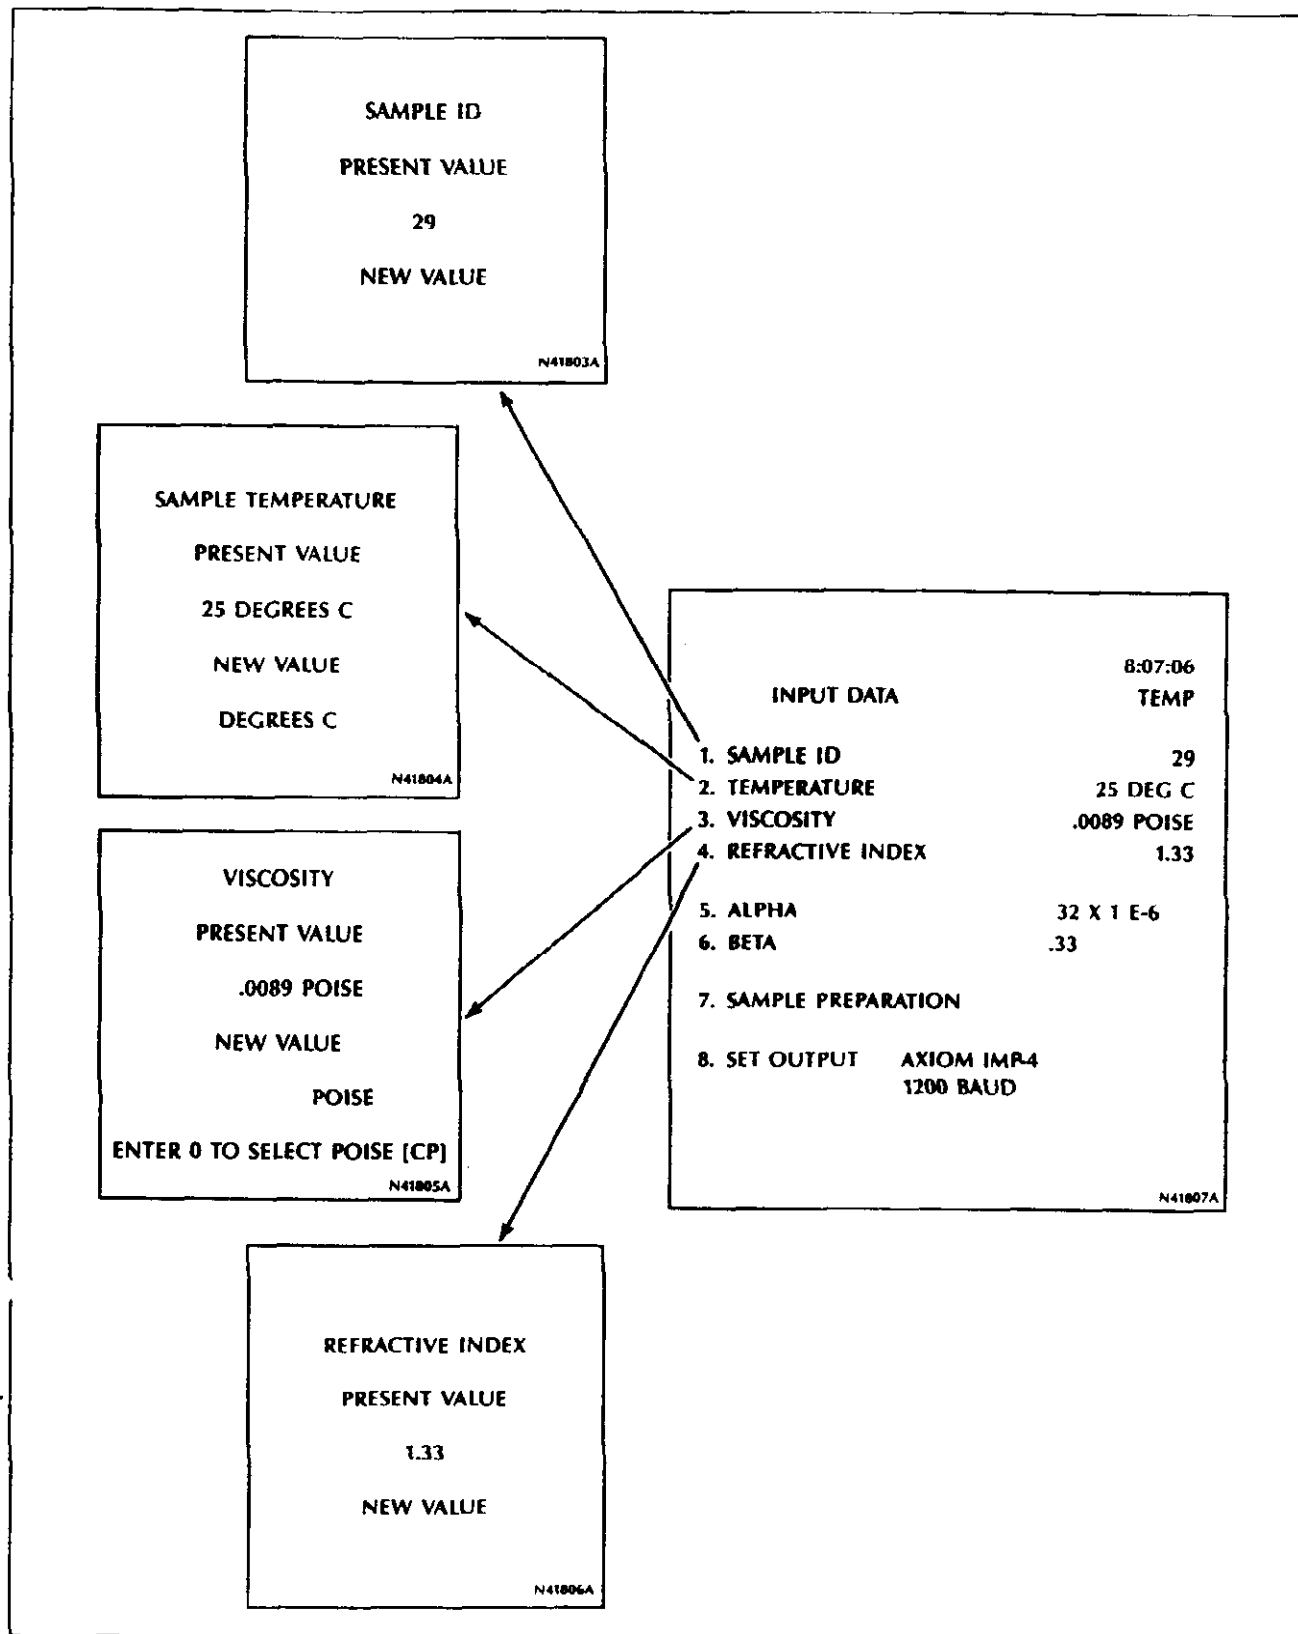

Figure 3.5 Sample Parameter Selection
<p>3. Press any key to display the INPUT DATA menu.</p>	<p>3. Control parameter/selection settings and their current values/selections display on the INPUT DATA menu, Figure 3.5.</p>
4. Move the cursor until it is adjacent to SAMPLE ID and press <ENTER>. Enter a set of numbers, from 1 to 17 digits, or decimal points by pressing the selected numeric keys or <.> and <ENTER>.	<p>4. The display screen (SAMPLE ID) appears as shown in Figure 3.5. The sample ID number is equivalent to a run number; it lets you identify a specific run. The sample ID also displays on printouts. By entering a value (a sample descriptive number), a number of periods, and a number (this number increments by one with each run of this sample), each run has its own sample ID number.</p>
<p>6. Press <ENTER> again to access the SAMPLE TEMPERATURE screen.</p> <p>To enter the required temperature, press the numeric keys and decimal point, if applicable, and <ENTER> to implement the new value.</p> <p>Example: To enter 22.4°C, press the following keys in sequence: <2>, <2>, <.>, <4>, and <ENTER>.</p>	<p>6. The SAMPLE TEMPERATURE screen appears as in Figure 3.5. You can select the temperature for sample analysis from 4 to 90°C. The temperature is regulated by an electronic Peltier device. Precision of the temperature stabilization is 0.2°C with the ambient temperature at 25°C. The instrument accepts up to three digits and a decimal point.</p> <p>The new value displays on the SAMPLE TEMPERATURE screen.</p> <p>When the unit is first powered up or when the temperature value is changed, a flashing TEMP message appears in the upper right-hand corner of the screen. This indicator has three modes:</p> <p>Flashing - The sample compartment is not close to the temperature set point.</p> <p>Steady - The sample compartment is close to the set point.</p> <p>Off - The sample compartment has settled at the set point.</p> <p>When introducing a new sample, allow at least 15 min for the temperature to stabilize.</p>
<p>8. With the cursor adjacent to VISCOSITY, press <ENTER>.</p> <p>Enter the diluent viscosity value by first pressing the selected numeric key values and then pressing <ENTER> to implement.</p> <p>Example: If the diluent used is chloroform and the sample temperature is 20°C the diluent viscosity value (see Appendix B) is 0.0058 POISE. Enter by pressing:</p> <p><.), <0>, <0>, <5>, <8>, and <ENTER>.</p>	<p>8. The VISCOSITY screen, Figure 3.5, appears.</p> <p>This parameter is the viscosity of the diluent at the temperature specified in the previous step.</p> <p>The standard unit of this parameter is POISE. The Model N4MD accepts units of centipoise. Press <0> to switch units. The instrument accepts up to four digits and a decimal point.</p> <p>The new value displays on the VISCOSITY screen.</p> <p>Be sure to verify that the appropriate value for the unit is entered.</p>
<p>10. Press <ENTER> again to access the REFRACTIVE INDEX screen.</p> <p>Enter the diluent refractive index by first pressing the numeric keys and then pressing <ENTER> to implement.</p> <p>Example: If the diluent used is chloroform, the diluent refractive index value is 1.446 (see Appendix B). Enter by pressing:</p> <p><1>, <.), <4>, <4>, <6>, and <ENTER>.</p>	<p>10. The REFRACTIVE INDEX screen, Figure 3.5, appears. This parameter is the refractive index of the diluent. The instrument accepts up to four digits and a decimal point, if applicable.</p> <p>The new value displays on the REFRACTIVE INDEX screen.</p>